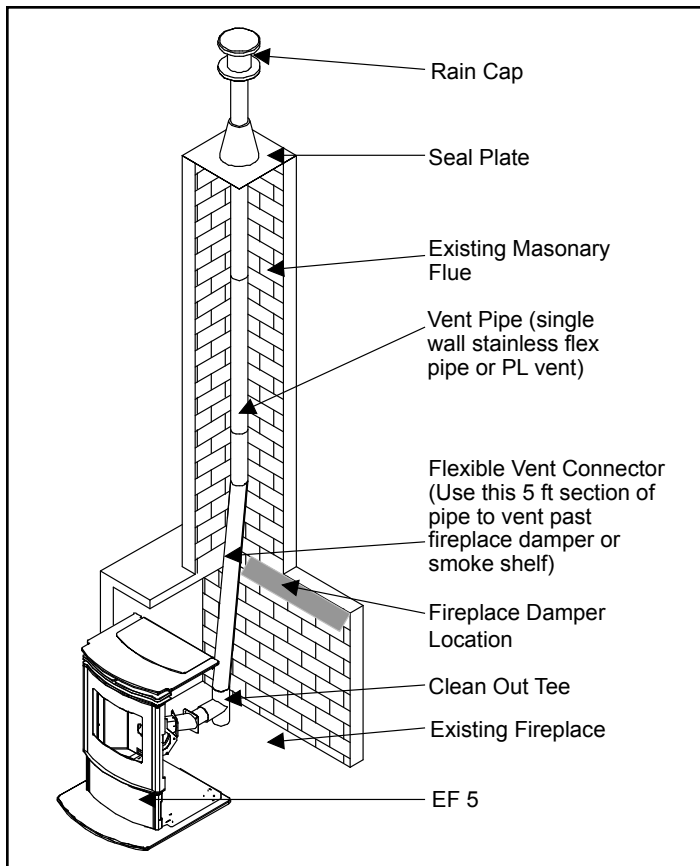

Figure 18: Hearth mount installation.
Refer to Figures 18.
1. Remove the left hand cabinet side by removing the two (2) screws down the front. Loosen the three screws on the back of the cabinet side and remove panel.
2. Loosen the six (6) screws that hold the back grill in place. Lift the back grill off the screws.
3. Disconnect the Exhaust blower wires from the wire harness. Remove the exhaust blower motor from the housing; six (6) screws. Cover hole in housing with cover plate provided (see Figure 18).
5. Install the exhaust blower housing box into the pipe placed through the wall thimble, seal with high temperature silicone. Fasten the box to the wall with (4) four screws, seal edges of box to wall with clear silicone.